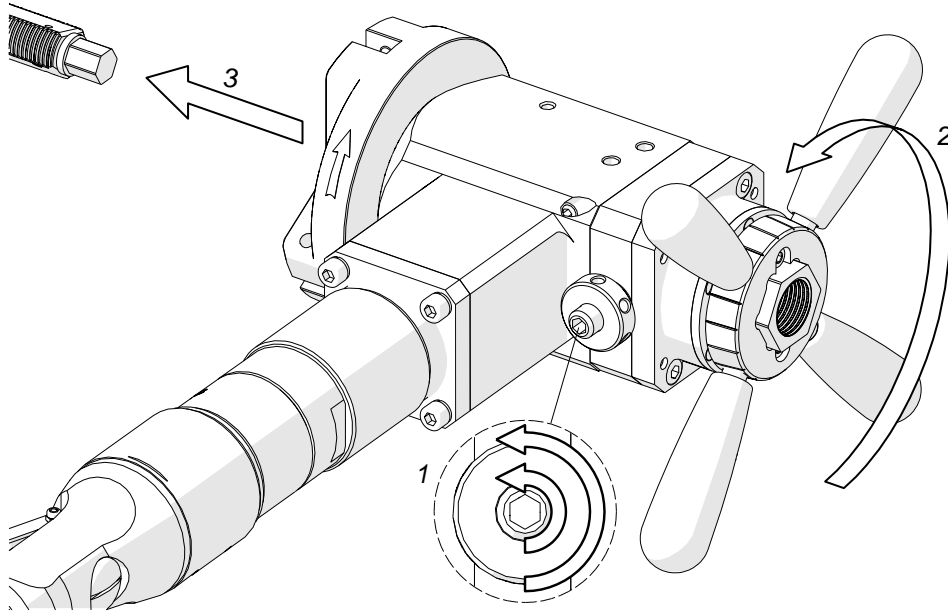
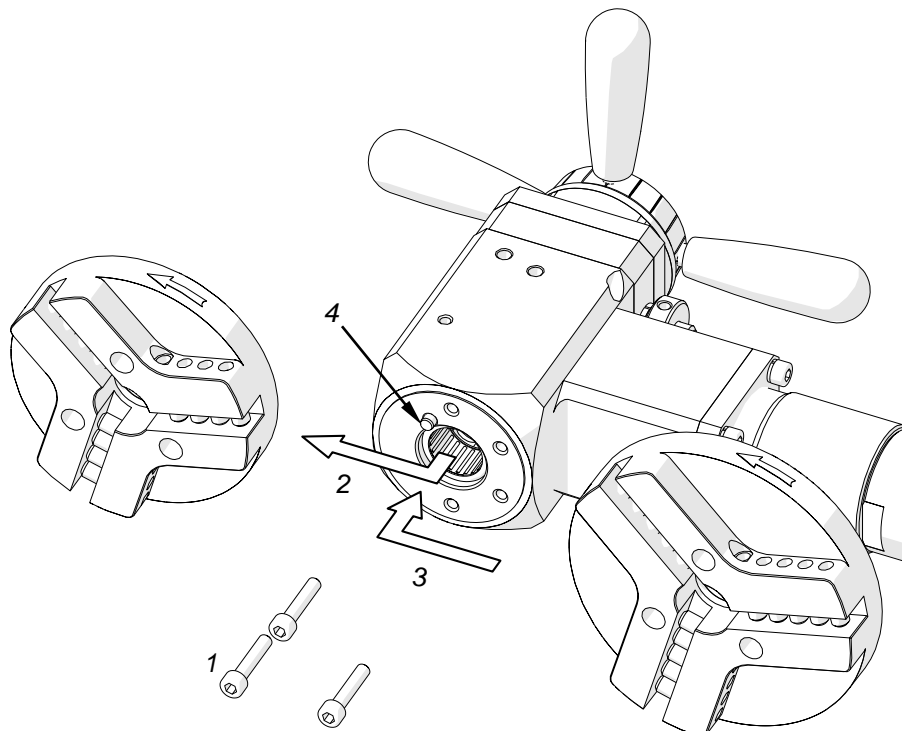

Fig. 7. Removing the mandrel from the machine
Fig. 8. Replacing the spindle disk
Loosen the nut and use the 6 mm hex wrench to loosen the set screw (1, Fig. 7) by at least one turn. Then, rotate the spoke handles to the left (2) to disengage the mandrel from the machine (3).
Use the 5 mm hex wrench (1, Fig. 8) and remove the spindle disk (2). Then, install the new disk (3) onto the pin 4 and tighten with the same screws.
Install the spindle disk after previously removing the existing spindle disk (Fig. 7, Fig. 8). Then, use the following table to select jaw blocks of the set suitable to the inside diameter of the pipe to be machined, and use the 3 mm hex wrench to tighten them to the expanding mandrel (1, Fig. 2). Install the tool bits in the sockets and tighten the screws (3, Fig. 2) with the 4 mm hex wrench.